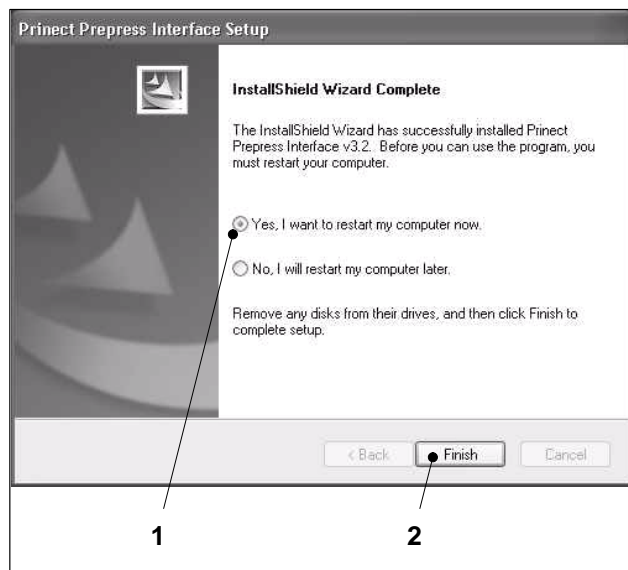

Fig. 13 Restarting the computer
As soon as Princt Prepress Interface has been successfully installed, the next input window opens (Fig. 13).
20. Now restart your computer by clicking on *Yes, I want to restart my computer now* (Fig. 13/1). Click on the *Finish* button (Fig. 13/2). Your computer restarts automatically.